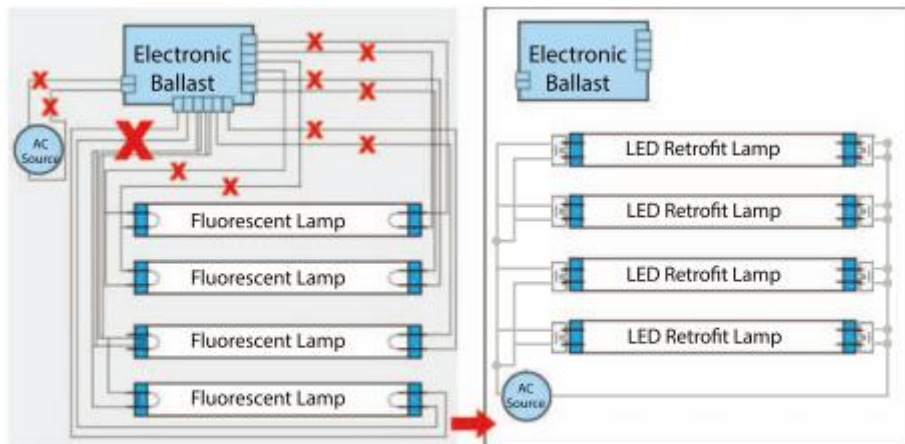

Figure 4. - Retrofit with Three/Four Lamps
4. Rewire the light fitting as shown in the circuit diagram above (Figure 1 to Figure 4) ;